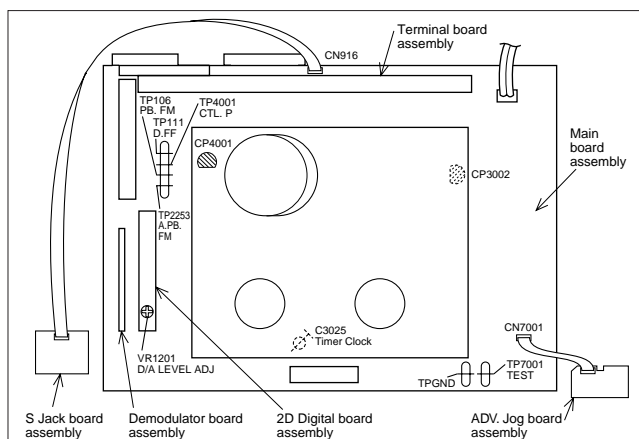

Fig. 1-4-1a
- (1) Refer to the disassembly procedure and perform the disassembly of the major parts before removing the Drum assembly.
- (2) Lower the cassette holder to prepare for the removal of the Mechanism assembly screws. (Refer to the "Procedures for lowering the Cassette holder assembly" of 1.3 Disassembly/assembly method.)
- (3) Remove the combined Mechanism and Main board assemblies.
- (4) If any other major parts are used, remove them also.
- (5) Connect the wires and connectors of the major parts that have been removed in step (1) to (4). (Refer to Fig.1-4-1a.)
- (6) Place the combined Mechanism, Main board and other board assemblies upside down.
- (7) Insert the power cord plug into the power outlet and then proceed with the diagnostics and servicing of the board assembly.
- (1) Unplug the power cord plug from the power outlet.
- (2) Connect TPGND and TP7001 (TEST) on the board assembly with a jump wire. (Refer to Fig.1-4-1a.)
- (3) Insert the power cord plug into the power outlet.
- (4) With lock levers (A) (B) on the left and right of the Cassette holder assembly pulled toward the front, slide the holder in the same direction as the cassette insertion direction. (For the positions of lock levers (A) (B), refer to the "Procedures for lowering the Cassette holder assembly" of 1.3 Disassembly/assembly method.)
- (5) The cassette holder lowers and, when the loading has completed, the mechanism enters the desired mode.